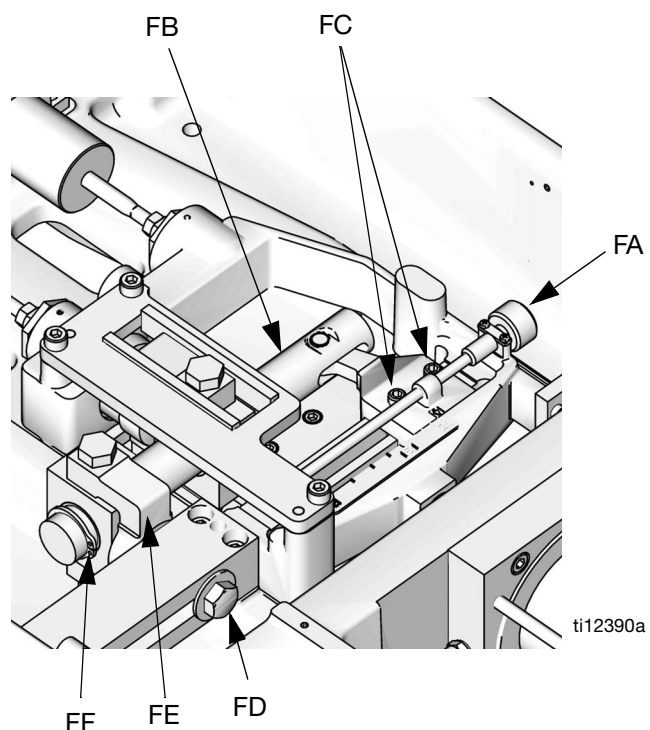
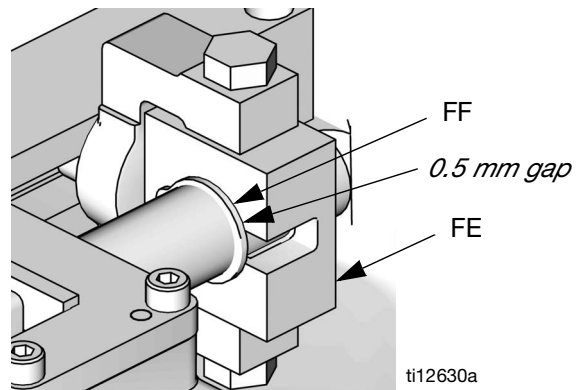

FIG. 9: Variable Ratio Arm Adjustment
FIG. 10: Ratio Beam Snap Ring
4. By manually pulling on the drive block, extend the pistons until the ratio beam (FB) is perpendicular or nearly perpendicular to the pump shafts.
7. Loosen the socket head cap screw (FC) on the adjustment clevis. See FIG. 9.
8. Loosen the hex head cap screws (FD) on the ratio adjustment pivot.
9. Turn the ratio adjustment knob (FA) clockwise to increase the ratio multiplier, and counter-clockwise decrease the ratio multiplier until the desired setting is reached (1.19 in the example).
10. Tighten the hex head cap screws (FD) on the ratio adjustment pivot.
11. Slide the ratio beam guide (FE) so there is a gap approximately 0.5 mm between the ratio beam guide (FE) and the snap ring (FF) as shown in FIG. 10.
10. If the materials do not exit the dispense valve at the same time, adjust the piston phase adjustment screw as follows. Refer to FIG. 10.
- c. Use a 7 mm wrench to turn the piston shaft (301) counterclockwise 1/4 turn or less to move the A piston forward.
NOTE: Ensure the piston shaft and phase adjustment screw do not rotate while tightening the locking nut in the following step. Refer to FIG. 10.